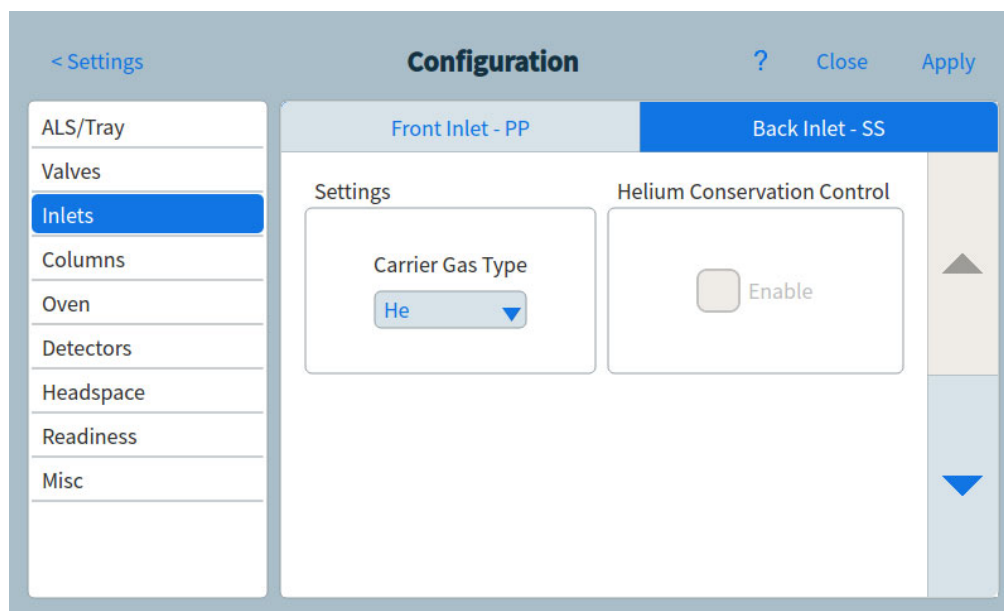

Figure 58. Inlets page
- 1 Select **Settings > Configuration > Inlets**. The properties for the selected device type appear on the right side of the screen. See **Figure 58**.